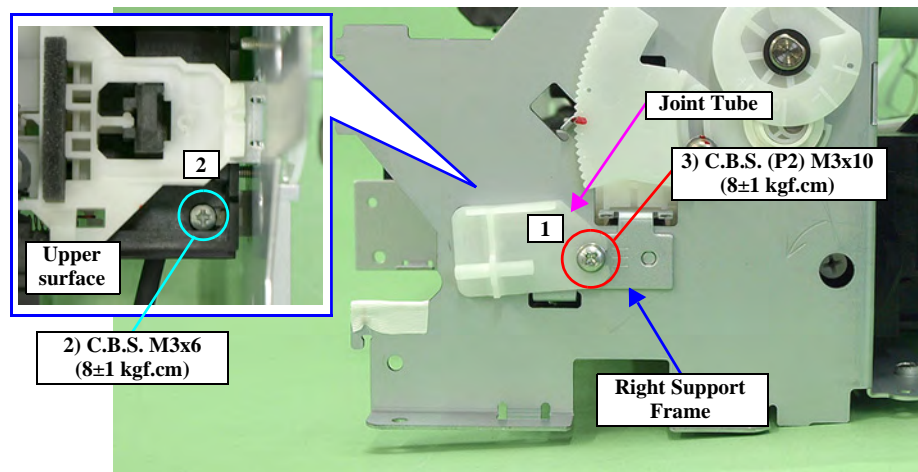

Figure 4-114. Removing the Right Support Frame
- Tighten the screws in the order shown in Figure 4-114